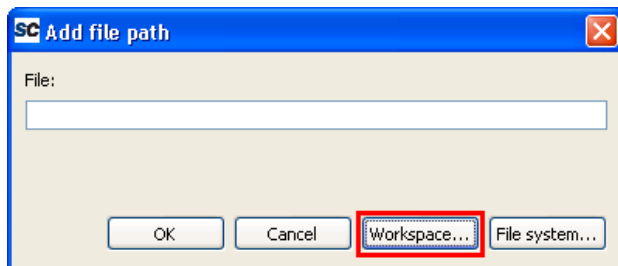

Figure 25 Add File Path Window
8. Click **Add** in the **Other objects** section. The **Add file path** dialog window is displayed, as shown in Figure 25.